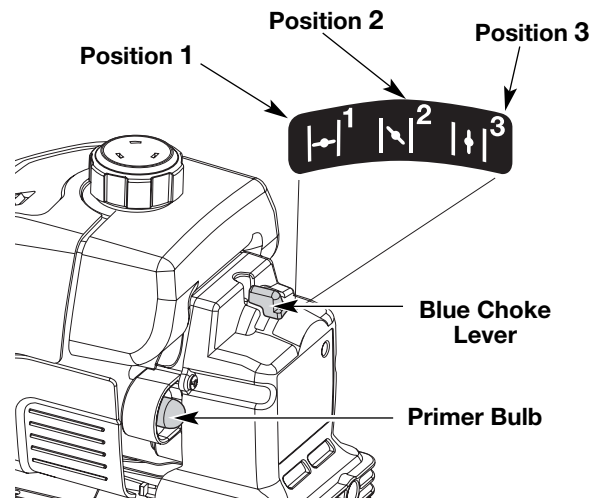

Fig. 7
3. Fully press and release the primer bulb 10 times, slowly. Some amount of fuel should be visible in the primer bulb and fuel lines (Fig. 7). If you can't see fuel in the bulb, press and release the bulb as many times as it takes before you can see fuel in it.
4. Place the blue choke lever in **Position 1** (Fig. 7).
8. Once the engine is warmed up, place the blue choke lever in **Position 3** (Fig. 7). The unit is ready for use.
IF... the engine hesitates, return choke lever to **Position 2** (Fig. 7) and continue warm up.